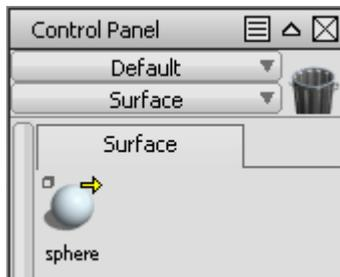

Figure 1-35 The Sphere tool added to the Surface shelf
3. Choose **Windows > Palette** from the menu bar; the **Palette** will be displayed. Next, expand the **Surfaces** tab by clicking on it. Drag the **Sphere** tool to the newly created shelf (**Surface**) by using the middle mouse button; the **Sphere** tool will be added to the new (**Surface**) shelf, as shown in Figure 1-35.